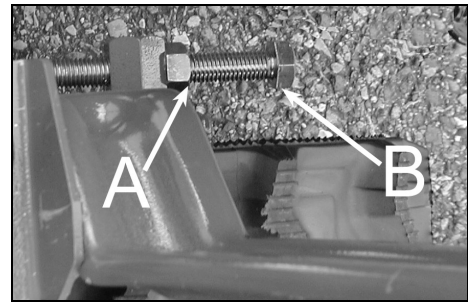

Figure 26
2. Loosen the lock nut on the crawler tension bolt at the back.(A figure 26)